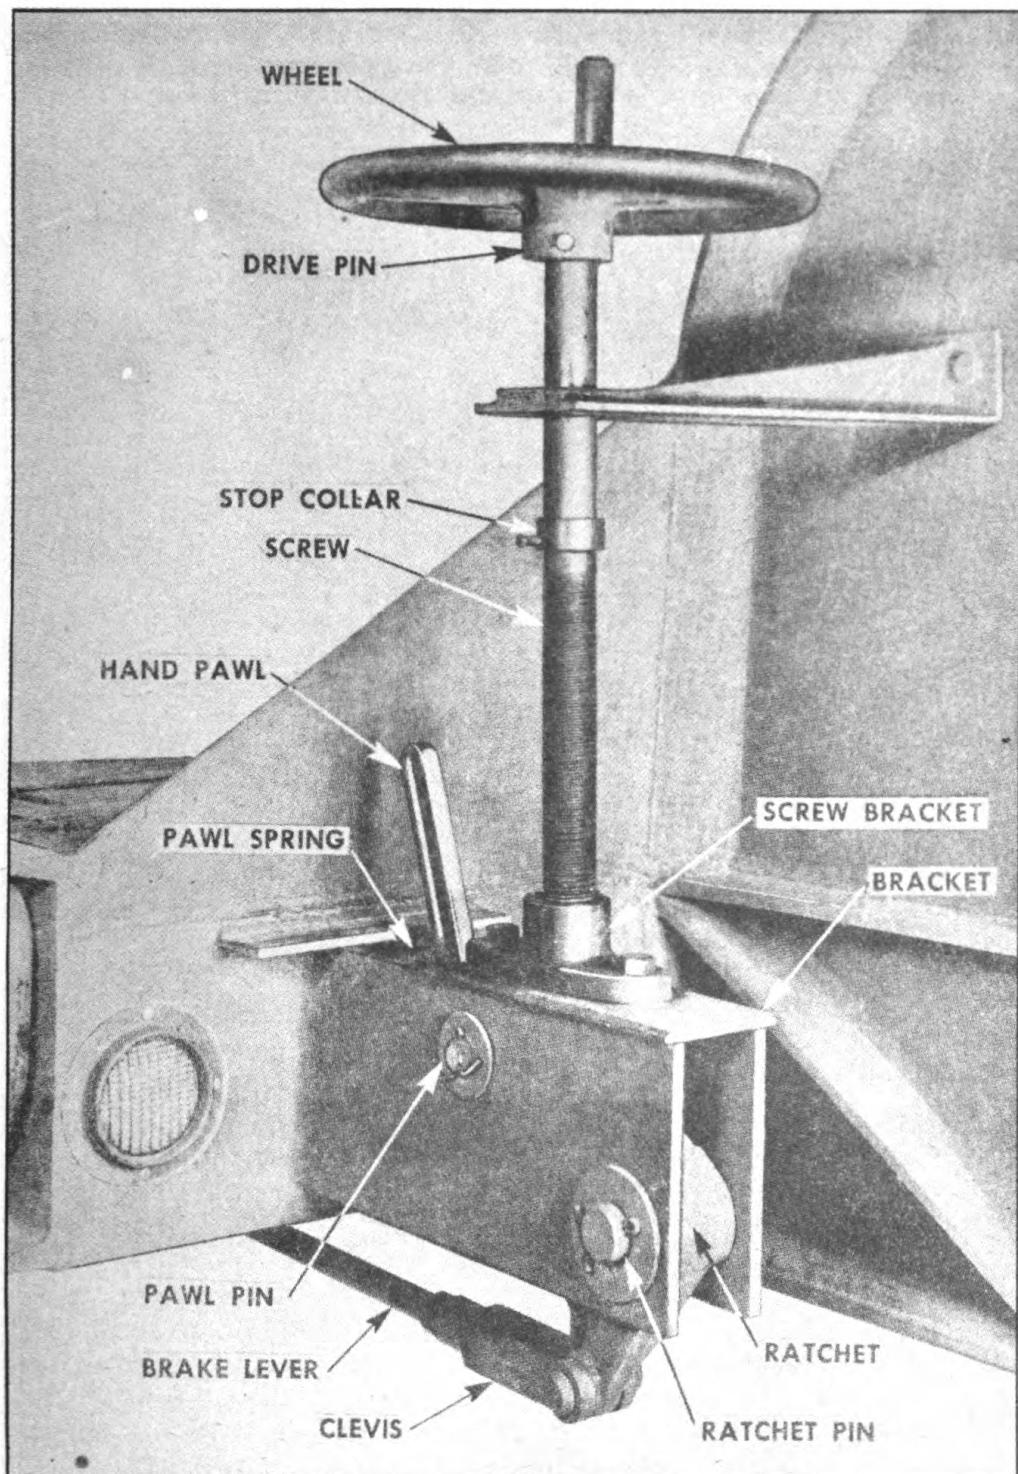

FIGURE 26. HAND PARKING BRAKE
(1) Loosen both nuts on both anchor pins so that the anchor pins can be moved freely.
(2) Replace the wheel and drum assembly. If it fails to move on freely, slack off on the slack adjusters through counter-clockwise movement of the slack adjuster wing wrench and centralize anchor pin eccentrics.
(3) With the wheel in place, turn the slack adjuster wing wrench clockwise until the shoes are tight in the drum.
(4) Turn the eccentric anchor pin to right and left as you tighten up on the slack adjuster until the brake shoes are centralized in the drum.
(5) Using a feeler gauge, set the clearance at .010 at the eccentric end and .015 at the cam end of the brake shoes.
(6) Tighten lock nuts on the anchor pins while holding anchor pins firmly in position with a wrench.
8. HAND PARKING BRAKE REPLACEMENT (Figure 26).—*a.* The hand parking brake is located on the right side, at the drop in frame. Turning the wheel in a clockwise direction applies the brakes.
*b. Replacing the wheel.*—(1) Drive out drive pin and tap wheel handle off screw.
*c. Replacing screw.*—(1) Loosen set screw in stop collar and turn wheel in a counter-clockwise direction until screw is turned out of bracket.
*d. Replacing ratchet.*—(1) Remove the clevis pin from ratchet. Remove cotter key and flat washer from ratchet pin, and drive pin out.
(2) Remove cotter key and flat washer and drive out pawl pin. Reverse this procedure to replace pawl.
9. ADJUSTING HAND PARKING BRAKE.—*a.* Usually the hand parking brake requires little attention, the minor brake adjustment taking care of parking brake adjustments. However, when an adjustment is required, there are two points of adjustment which may be used. Each may be used separately or both at the same time. One adjustment may be made by shortening the brake rod at hand brake ratchet (Figure 26). The other adjustment may be made by shortening the brake rod which is attached to brake cylinder lever.
(1) Shorten brake rod at hand brake ratchet (Figure 26).